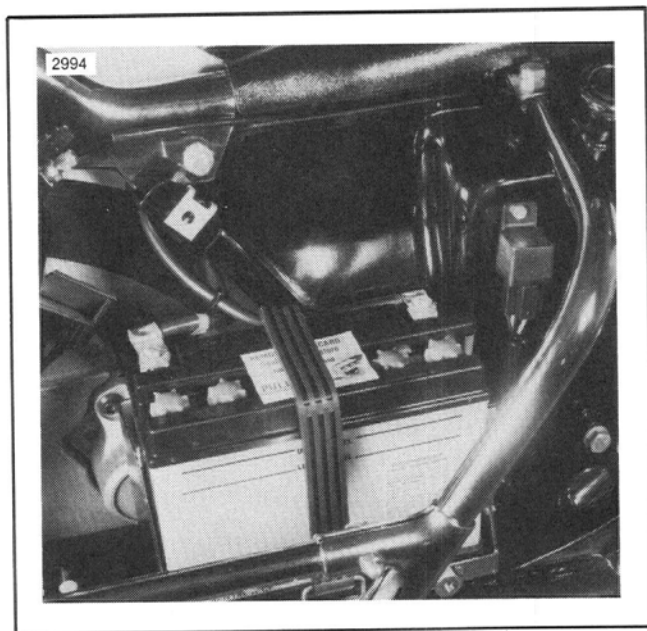

Figure 40. Battery — FLHTP
See Figures 40 and 41. It is the care given a battery, rather than the time and miles of service, which is most important in determining its life.
2. See Figure 40. Connect one end of a jumper cable to the DISCHARGED battery positive (+) terminal.